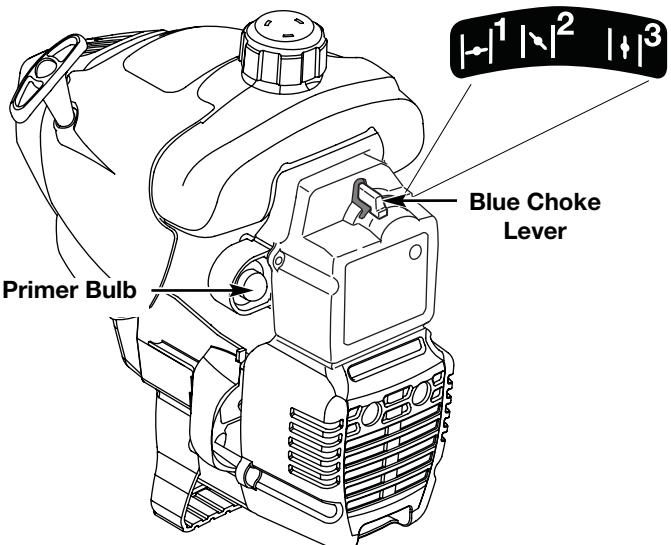

Fig. 7
- 2. Fully press and release the primer bulb 10 times, slowly. Some amount of fuel should be visible in the primer bulb and fuel lines (Fig. 7). If you can't see fuel in the bulb, press and release the bulb as many times as it takes before you can see fuel in it.
- 3. Place the blue choke lever in **Position 1** (Fig. 7).
- 5. Place the blue choke lever in **Position 2** (Fig. 7).
8. Once the engine is warmed up, place the blue choke lever in **Position 3** (Fig. 7). The unit is ready for use.
IF... the engine hesitates, return the blue choke lever to Position 2 (Fig. 7) and continue warm-up.